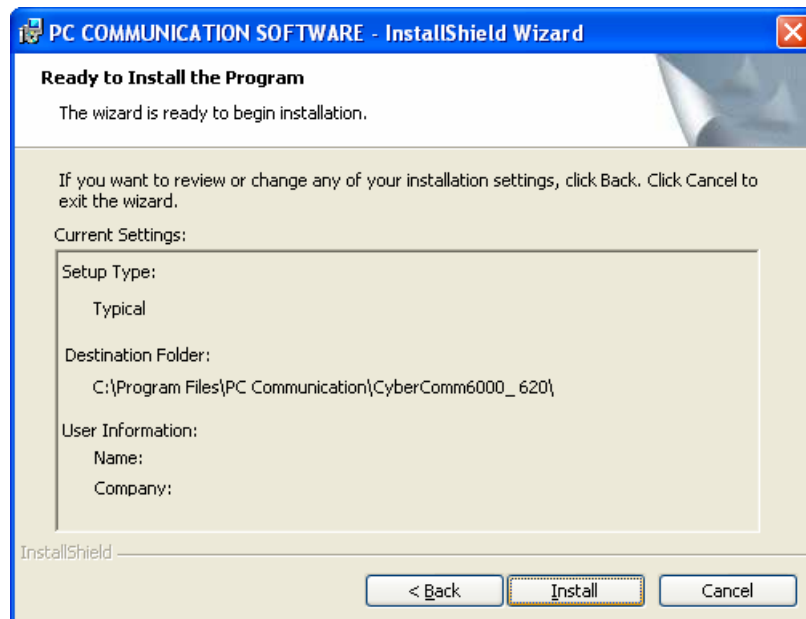

Figure 5 : Ready to begin installation
5. In the next screen, click **Install** to begin the installation. (Figure 5)